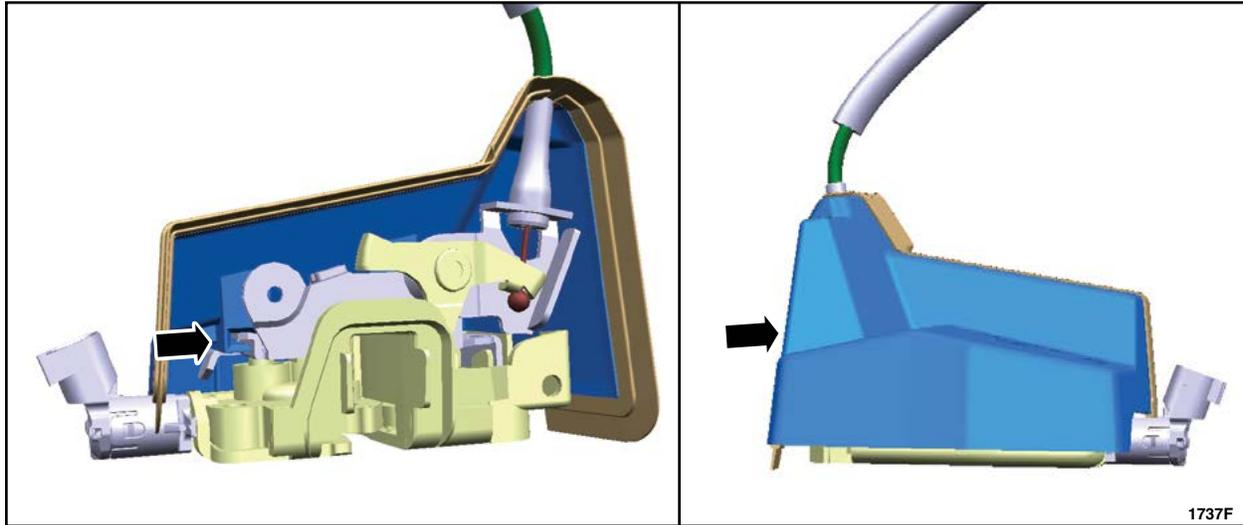

FIGURE 106
NOTE: If the vehicle has previously had a rear lower door latch replaced, it may already have the latest level door latch water shield installed. If the Super Cab rear lower door latch has a large water shield installed as shown in Figure 106, then installation of a *new* water shield is not required.
8. Install a *new* door latch water shield onto the lower rear door latch. See Figure 106.